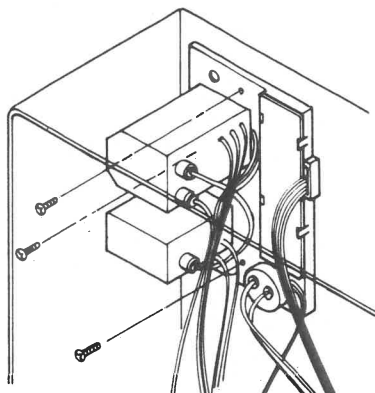

Figure 22
- 3-3 Remove 3 screws holding Tuner Chassis and Front Cabinet, and pull Tuner chassis backward. (Refer to figure 22)